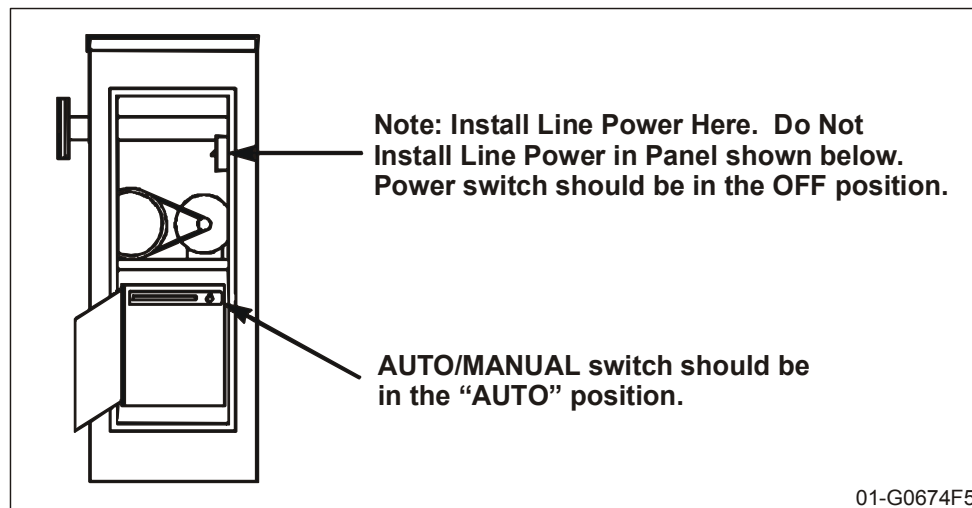

Figure 3
- 2 Run electrical power to the site according to local electrical codes. See Table 3 below for correct wire size and length of run (see also Figure 3). If the wire gauge is too high (wire too small) or the run is too long, the gate may not run properly or may not run at all. **Damage to components may result.**
- 3 Connect power supply wires to the ON/OFF power switch as shown on the operator wiring diagram and Figure 3 (see page 9). **Do Not** connect power at control panel (L1, L2, L3). Route wires away from belt and limit switches.